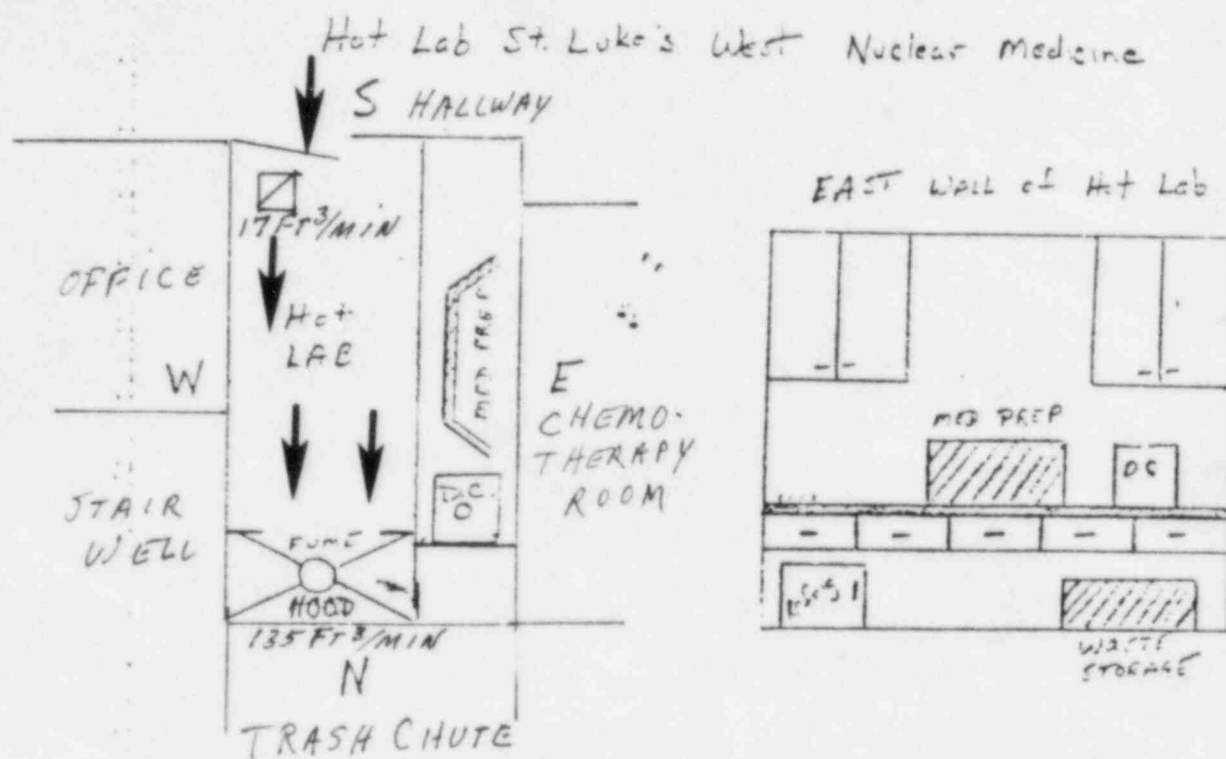

Figure 1
- a. The area where the xenon-133 is to be stored is Figure 1. The area where the xenon-133 is to be used is Figure 2. The room where the xenon-133 is to be used was originally designed for radiation therapy purposes and which is now used for nuclear medicine diagnostic procedures. The floor area of the room is 287 sq ft with a ceiling height of 9 ft.